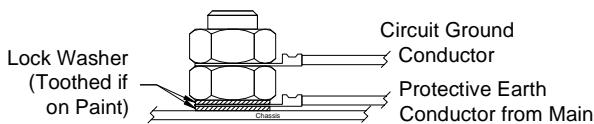

Figure 6 N4X Protective Earth Connector
- a. Locate the ground terminal on the pack plate of the N4X enclosure (Figure 6).